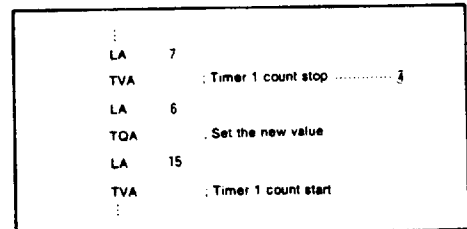

Fig.13 Example program-3
③ **Notes on timer 1**
When the count value of timer 1 is changed while it is counting, the first timing of timer 1 overflow just after the changing is unsettled. Therefore, change the count value while timer 1 is stopped (④)(see Figure 13).